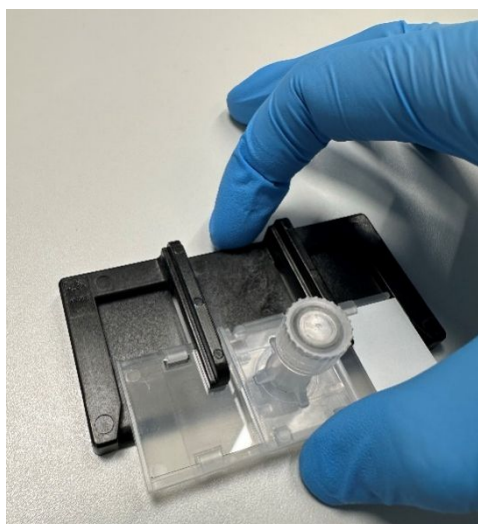

Figure 8a. Inserting the CellKeep slide into the slide detacher.
- Insert the CellKeep slide into the slide detacher (Figures 8a, b).